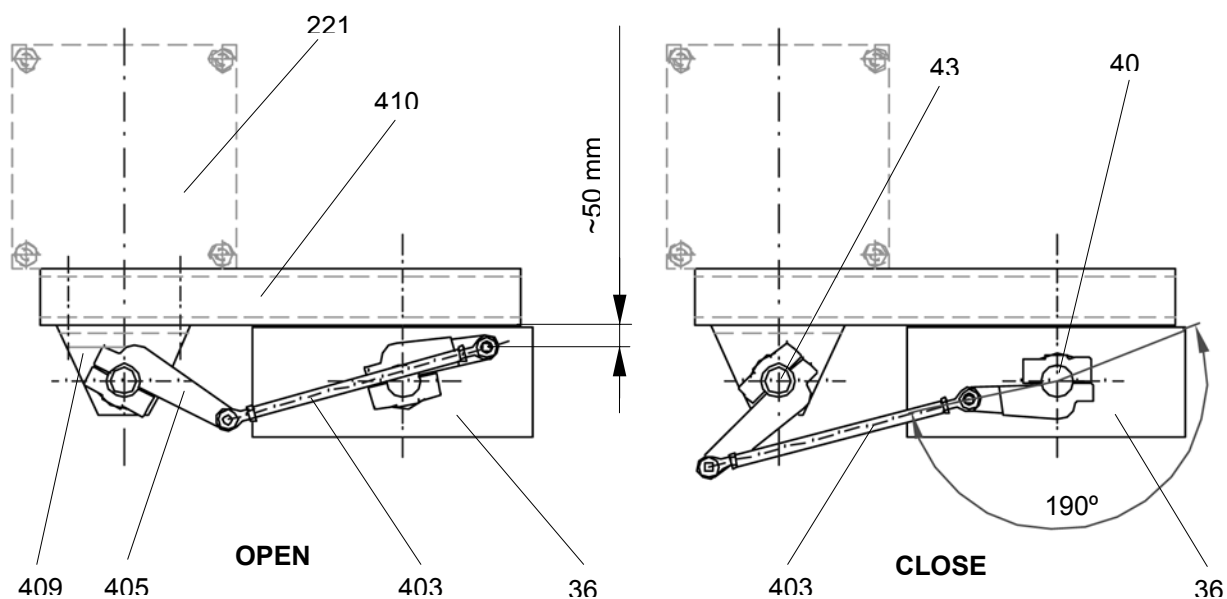

Figure 10 Mounting of operating mechanism for disconnecter, bracket of operating mechanism
- 7.6.8 Mount operating lever 401 on the coupling pin 40 of operating mechanism (36), and operating lever (405) on the shaft (43). For details see Fig. 10
- 7.7.3 Mount the coupling lever (413) on the operating shaft (43) of operating pole. The position of operating lever is shown on Fig. 10. The position of lever depends on proportion between pole distance "X" and "Y". In every case check the dimension drawing which concerns to installed equipment.